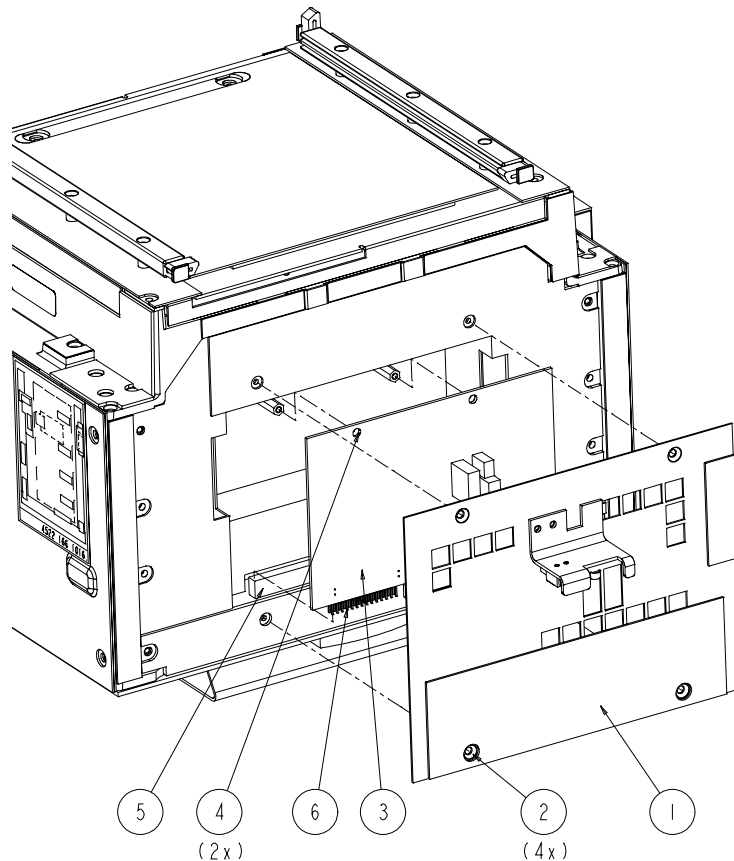

Figure 13: Replace LA3 SIFLCO
3. Remove the 4 sunken screws (items 2, Figure 13) from the LA3 Cover-plate (item 1, Figure 13) and remove the LA3 Cover-plate
4. Remove 2 screws and washers (items 4) from LA3.
5. Remove the LA3, item 3, by lifting the board (connectors LA3X1 respectively LA3X2 from LA1X3 respectively LA3X4)
7. Reassemble in reverse order. Be sure that the board connectors (item 6) are positioned exactly in the correct position onto the backpanel connectors (item 5).